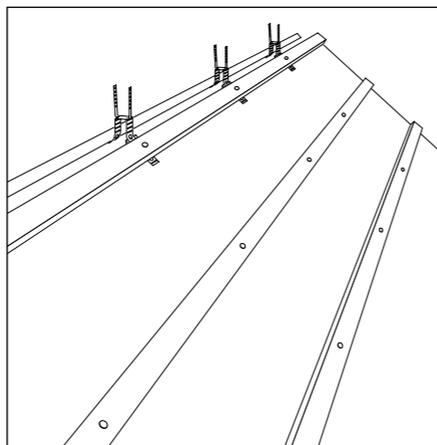

Fig 2
- 2 Fix the top course tiling battens into position, over the ridge batten brackets, leaving approximately 45mm between the rafter apex and the tiling batten to ensure 75mm of ridge tile overlap (Fig. 2).